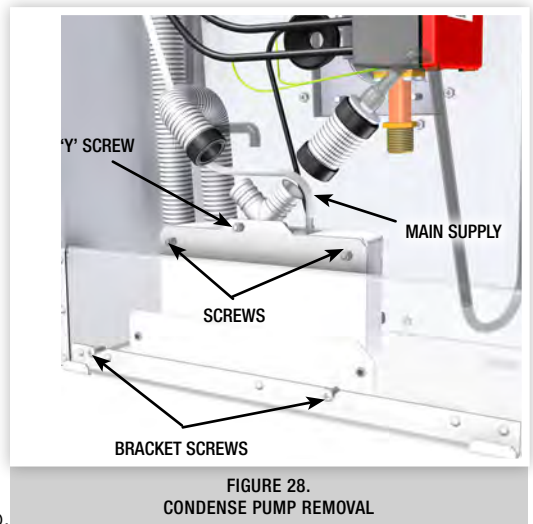

FIGURE 28.
- 17.9.1 Refer to section 16.3 and See Figure 28.